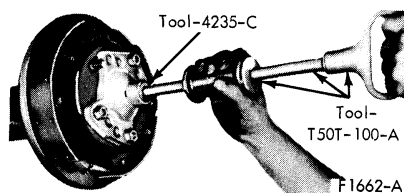

FIG. 1 Removing Axle Shaft
4. Pull the axle shaft assembly out of the axle housing (Fig. 1). **The brake backing plate must not be dislodged.** Install one nut to hold the plate in place after the axle shaft is removed.